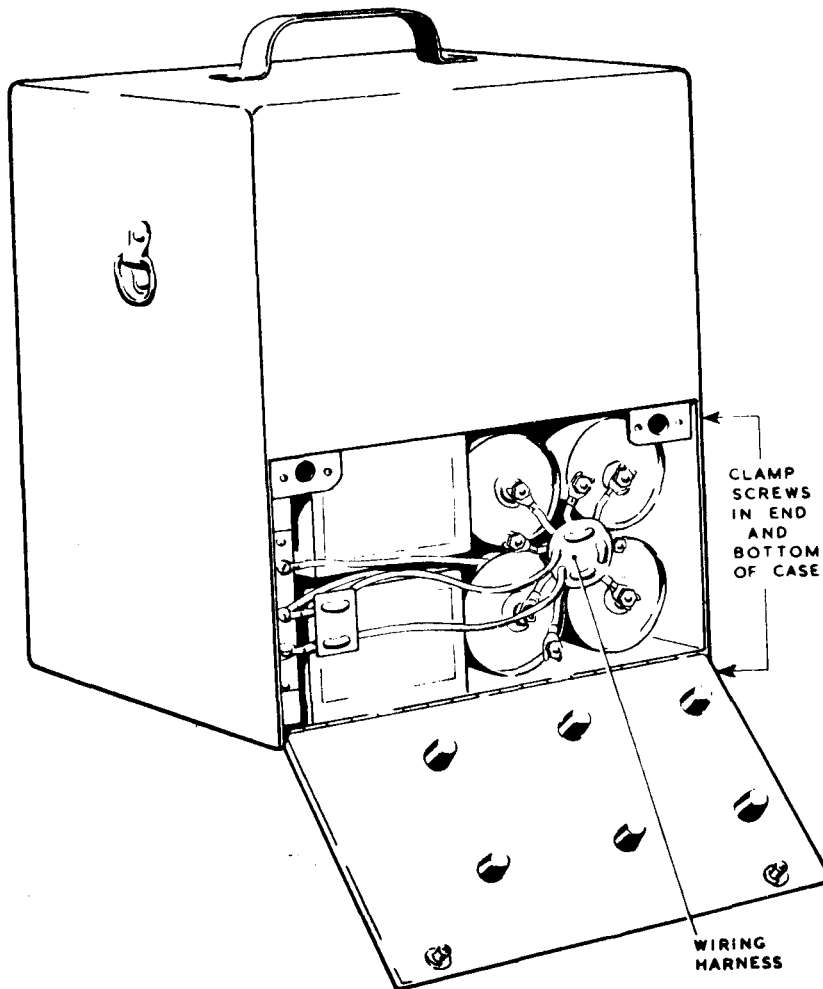

Fig. 2. Frequency meters listed in para. 5.
5. In the above instruments a strip-metal battery clamp and a wiring harness is used (fig. 2).